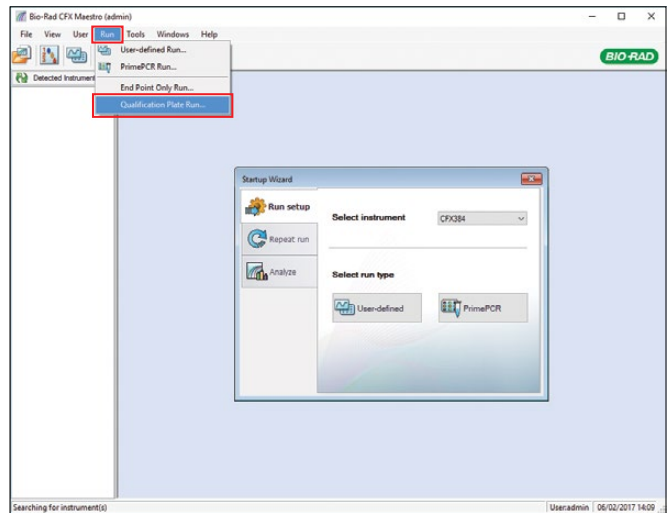

Fig. 1. Selecting Qualification Plate Run in the Run dropdown menu.
5. Click the **Run** tab in the menu bar and select **Qualification Plate Run** (Figure 1).